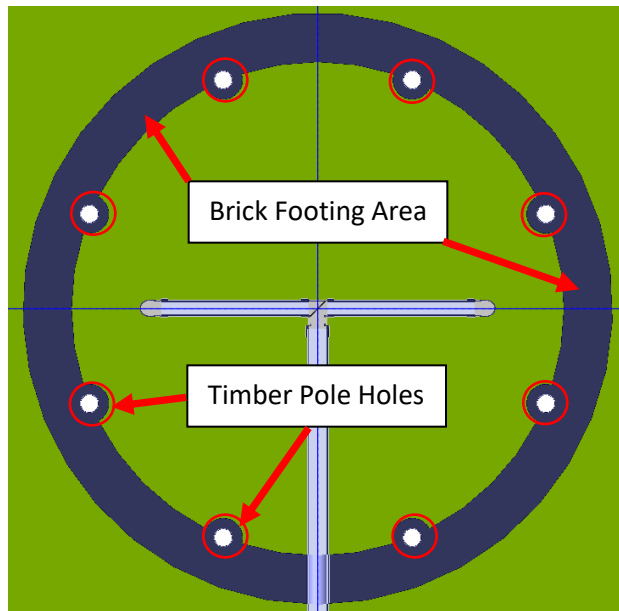

Figure 2: Footing Location
- Excavating the Pole Locations:** Each timber pole location should be excavated to a depth of 60 cm, at a diameter large enough to accommodate the pouring of concrete or the tamping of damp course back into the hole. Mark out an inner and outer edge for the footing of the brick circle. Follow local guidelines for the width of the footing (For the UCCS prototype, we used 30 cm for a footing width, with the centerline of the brick circle 15 cm from each footing edge.). Note that the footing circle intersects each of the eight outer timber pole holes. Remove the bricks from the footing area. See Figure 2 below.